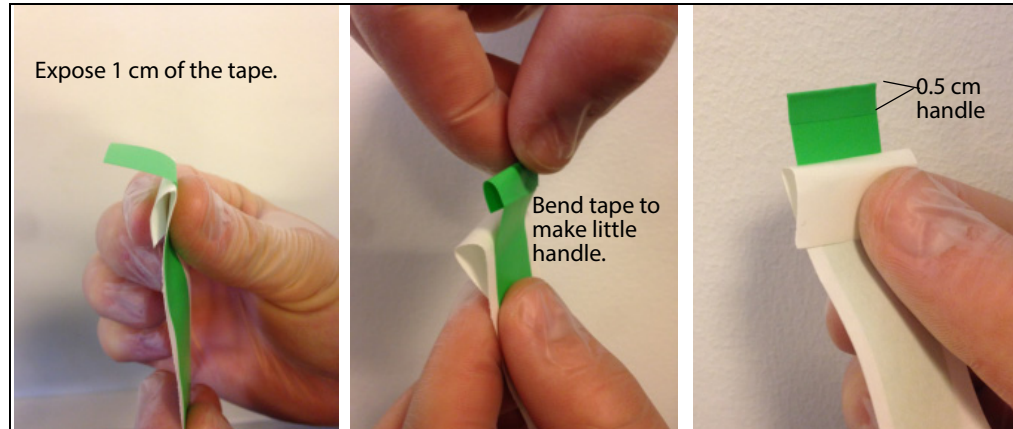

Figure 11. Creating a tape “handle”.
- 4 Create a tape handle: Partly remove the protective strip from the tape so only the first cm of the tape is exposed. Then bend the first (sticky) cm in half and tape the sides together to create a 0.5 cm “handle”. (See Fig. 11.)